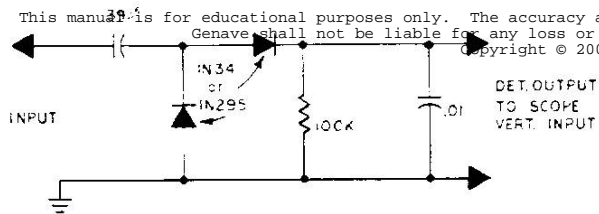

Figure 4-2. High - Impedance Detector
1. With transceiver OFF, connect RF-output cable of sweep generator to transceiver antenna connector J301. Connect a high-impedance detector (Figure 4-2) to gate 1 of 1st mixer Q103; then, connect detector output to oscilloscope vertical input.
1. Connect a high-impedance detector (Figure 4-2) to drain of FET amplifier Q105; then, connect detector output to scope vertical input. Set scope vertical attenuator to its most sensitive position.